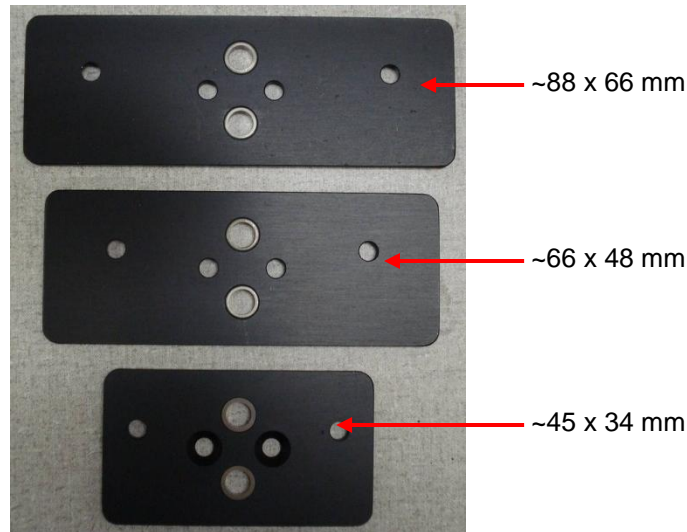

Figure 2.2 Large, Medium, and Small FOV Camera Adapter Plates
5. Select the appropriate Camera Support Plate for the desired field of view (FOV). The widest plate is used for the largest FOV and vice versa (**Figure 2.2**). When aimed at the same spot these plates should give the camera system a stereo angle of $\sim 15^\circ$.